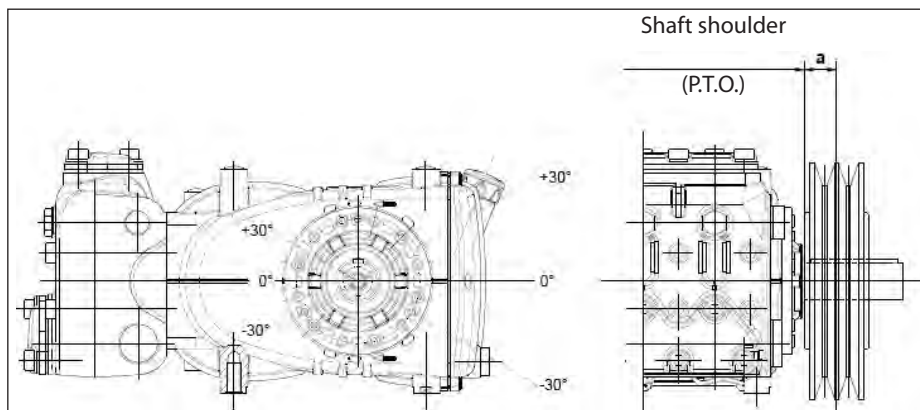

Fig. 10
The radial load on the shaft must not exceed 3000 N (value necessary for Layout definition). The transmission is considered adequate if the load is applied to a maximum distance  $a=30$  mm from the shaft shoulder (P.T.O) as shown in Fig. 10.
- b) Use high performance belts – for example **XPB** instead of **SPB** – as a lower quantity of belts for the same transmitted power may be necessary and a consequent shorter resulting distance compared to the shaft shoulder (P.T.O) "a" of Fig. 10.
- e) Follow the direction of the belt pull as shown in Fig. 10 for other needs, contact our **Technical** or **Customer Service Departments**.